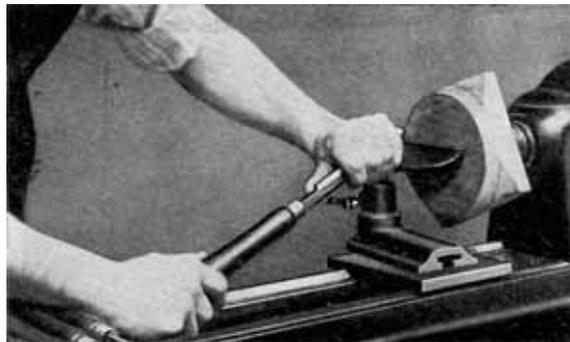

Fig. 14.
1. ROUGHING OFF CORNERS. ($\frac{3}{4}$ " GOUGE.) FIG. 14. The tool rest is set crosswise to the bed of the lathe and parallel to the face of the stock.